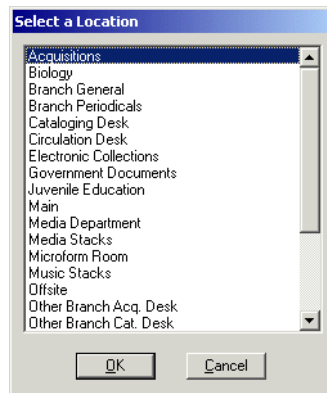

Figure 5-5. Select a Location dialog box
4. In the **Search For** column, click the **ellipsis**. The **Select a Location** dialog box opens (see Figure 5-5).